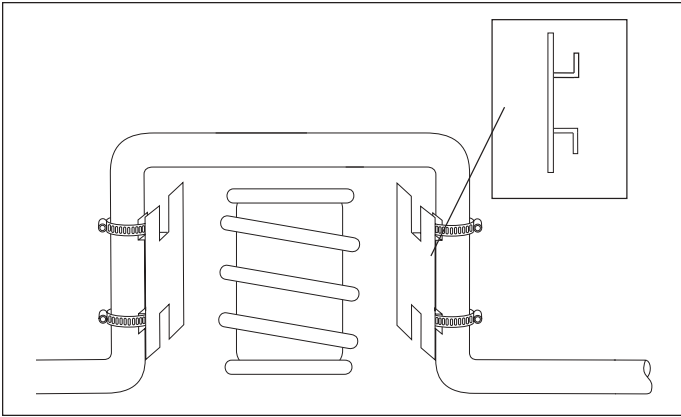

Figure 2
4. Position the heat shield and insert the heat shield tabs beneath the two radiator clamps. Tighten the clamps (Figure 2).